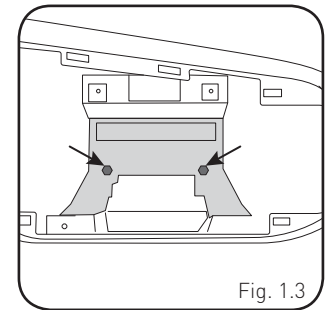

Fig. 1.3
4. To make room for the aftermarket radio, a section of the sub dash must be removed. Remove the two (2) 7mm screws at the back part of the dash. Then cut out the highlighted section. (Fig. 1.3)